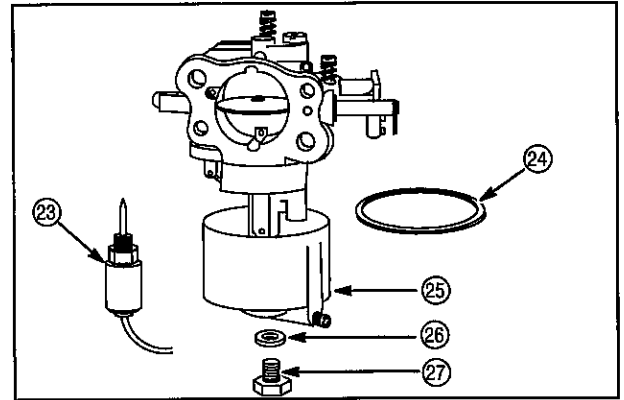

Fig. 40
20. Install bowl gasket (24), float bowl (25), washer (26) and screw (27) or anti-afterfire solenoid (23), if equipped, Fig. 40.